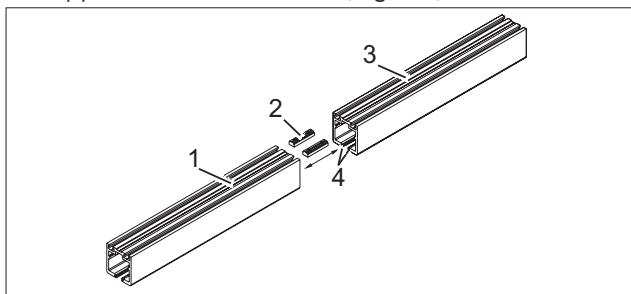

Fig. 3 Interlocking the track rails
2. Insert the clamping pieces (Fig. 3/2) into the upper track rail channels (Fig. 3/1).
3. Secure the clamping pieces (Fig. 3/2) using the set screws on the top side.
4. Insert the tapered dowel pins (4x) 20 mm into the lower channel (Fig. 3/4) halfway.
5. Interlock the track rail elements (Fig. 3/1 and Fig. 3/3). For this, insert the clamping pieces (Fig. 3/2) into the upper track rail channels (Fig. 3/3).
6. Secure the clamping pieces (Fig. 3/2) using the set screws on the top side.